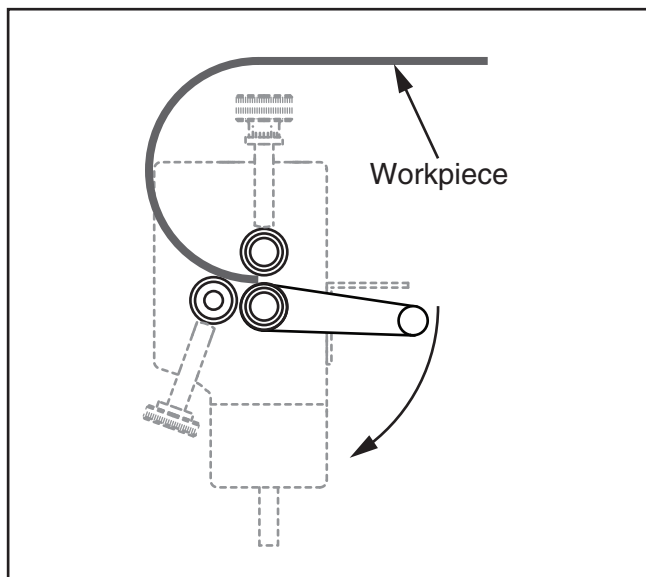

Figure 16. First bend completed.
5. Rotate the hand crank clockwise to feed the workpiece until it is completely through the rollers, as illustrated in **Figure 16**.